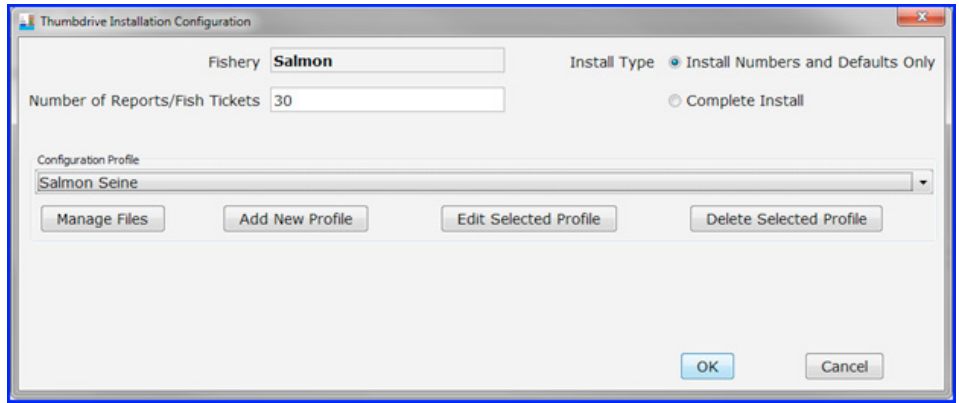

Figure 5.
A. When you select the Customize Install, the dialog below appears. This allows you to add, edit, delete, and manage any configuration file (Figure 5).